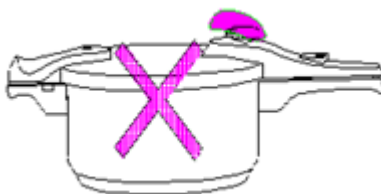

Figure 1
- Never use the pressure cooker when empty (figure 1).